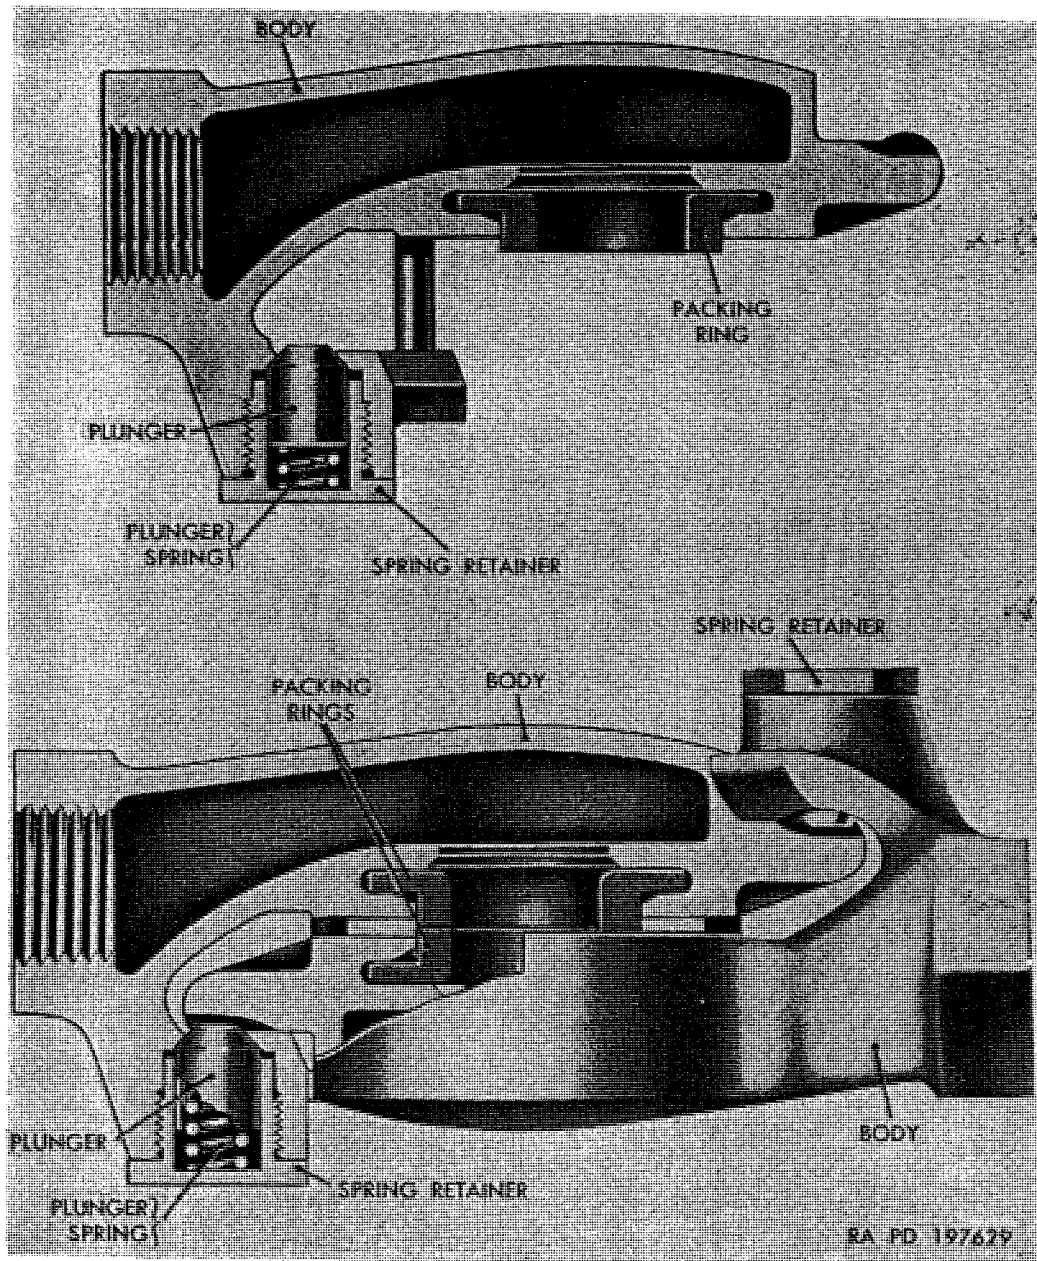
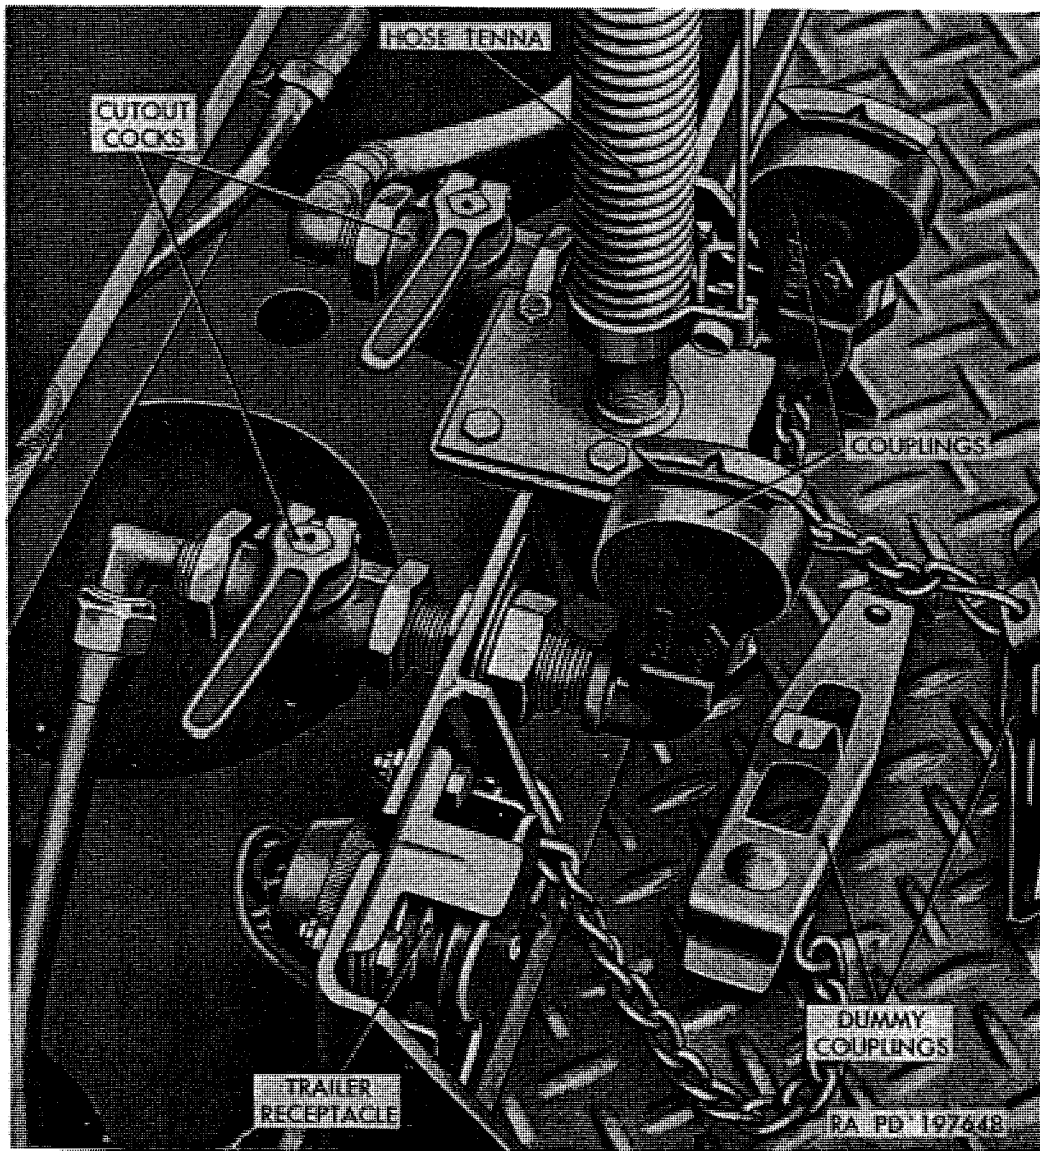

Figure 256. Sectional views of trailer brake hose coupling.
Figure 258. Trailer brake couplings and cutout cocks installed at rear of cab (M221).
a. General. Two air line couplings at rear end of vehicle on all models, except gasoline tank truck M217 and water tank truck M222 provide a means of connecting the trailer brake system to the truck brake system. Coupling on right side of vehicle, marked EMERGENCY, is connected directly to air reservoir on truck, and delivers a constant supply of air pressure to the trailer air system. Coupling on left side, marked SERVICE, is connected to the air-hydraulic cylinder control valve, and delivers air pressure to the trailer brake operating valve when truck brakes are applied. Dummy couplings, attached to frame brackets by chains, are provided to seal trailer air couplings against the entrance of dirt when not in use. A cutout cock at each trailer coupling provides a means of shutting off the trailer brake air lines when not connected to trailer. On truck tractor M221, two additional trailer couplings and cutout cocks are installed at rear of cab (fig. 258) for connecting truck brake system to semitrailer brake system. Couplings and identification markings are identical to those installed at rear of vehicle. Use of trailer brake couplings is described in paragraph 44. Figure 256 shows a sectional view of a single coupling and a view of two couplings connected. When the two couplings are connected together, pressure is placed on two rubber packing rings, making an airtight seal.
- (2) *Plunger and spring replacement* (fig. 256). Unscrew spring retainer from body of coupling and remove spring and plunger. Place new plunger and spring in spring retainer, thread retainer into coupling body, and tighten. Make sure nose of plunger extends through body.